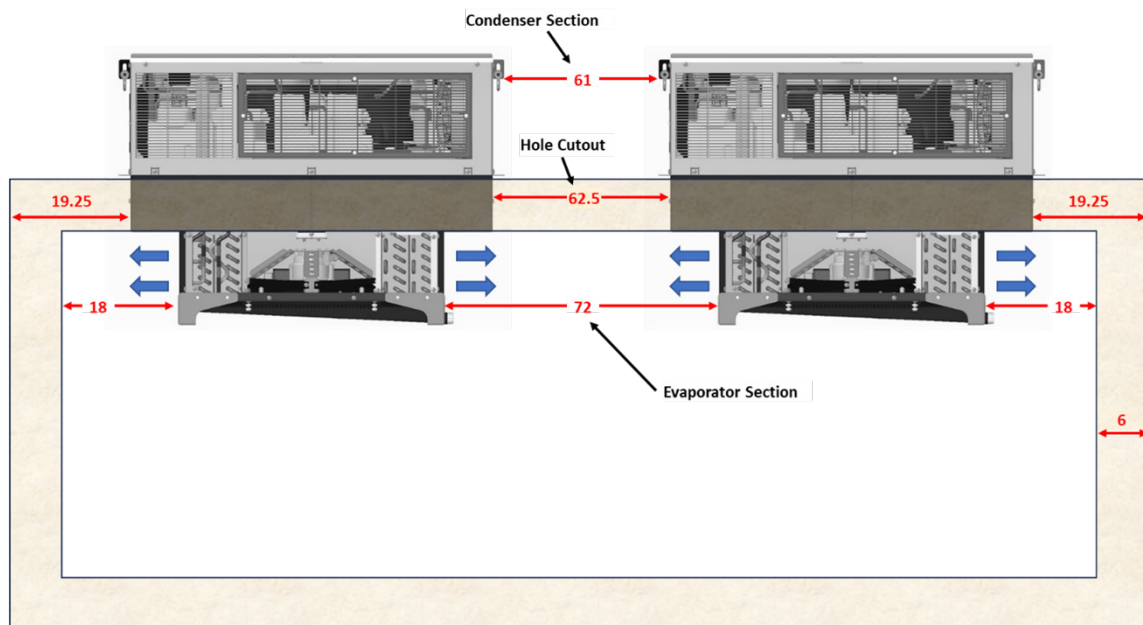

Figure 7 – Dimension Comparison
- Spacing of hole cutouts is different than the cold side spacing. See Figure 7.